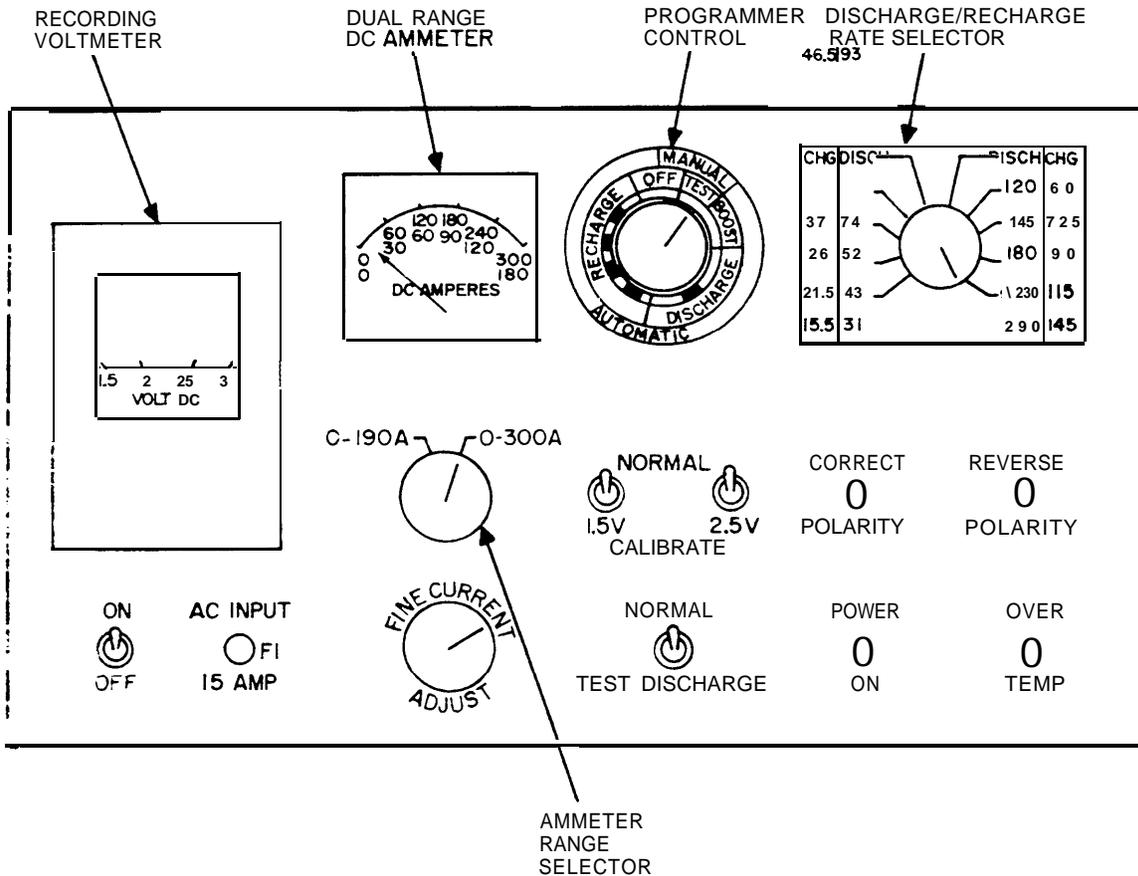

Figure 1 Control Panel of Model AP300A2 Discharger/Recharger,
- (1) Check that all switches on the control panel (Figure 1) are in the OFF or NORMAL position. If it is necessary to set the programmer control to OFF, turn it in the clockwise direction only.
- (4) Tighten all connections of step 3, and check that the CORRECT POLARITY lamp on the discharger/recharger control panel lights (Figure 1). If the REVERSE POLARITY lamp lights instead, reverse the connections at the cell terminals.